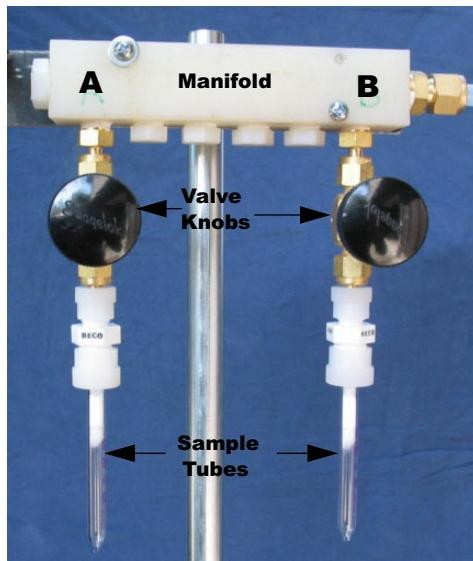

Figure 2: The Drift Catcher sampling manifold allows you to take two samples at once. The valve knobs control the air flow through the sample tubes.
- Manifold with bracket and tube adapters (Figure 2 and Figure 3)